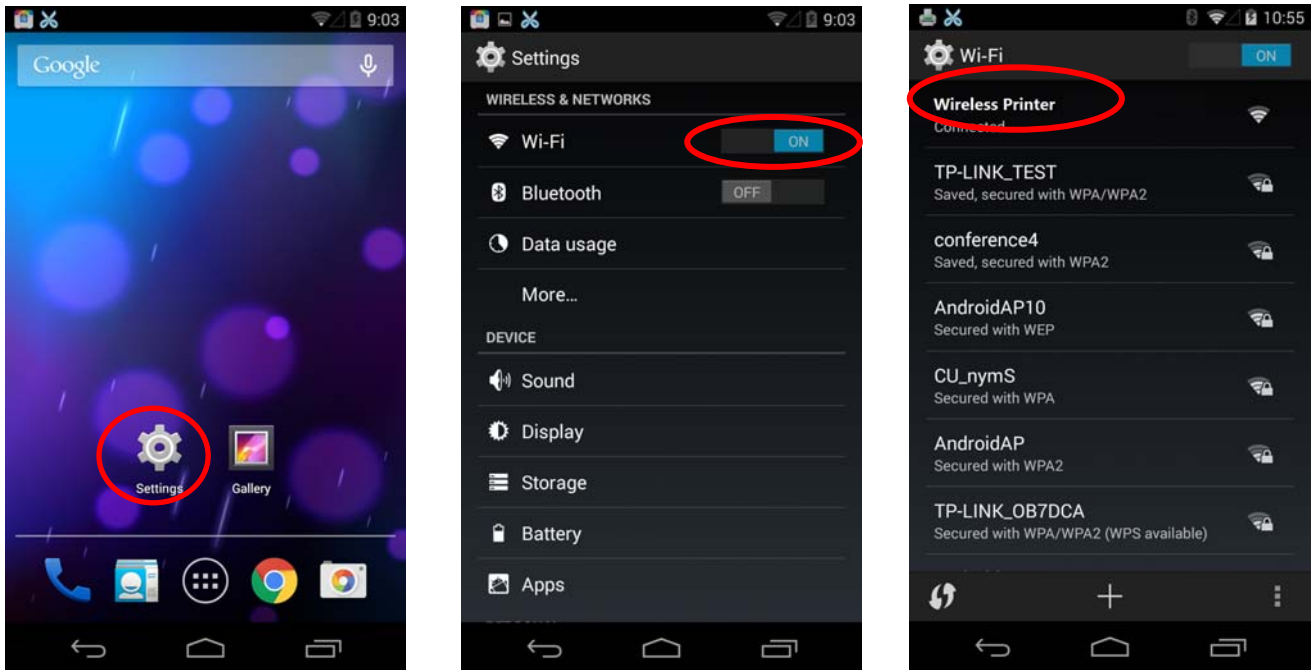

Figure 2
2. Click "Settings" and the interface pops up. Select the "WLAN" function to "ON", then click the printer Wi-Fi searched by the mobile phone to connect. The printer Wi-Fi default name is composed of "t the printer model+10 SN numbers" (as shown in Figure 2).